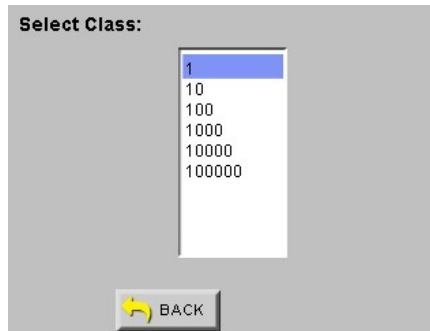

Figure 5-70 Select Class Level
- Press the CLASS button and the Select Class screen displays as shown in Figure 5-70. Touch the desired class so it becomes highlighted. Press the BACK button to save and return to previous screen.